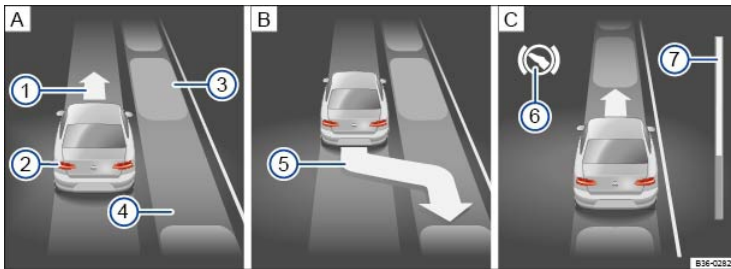
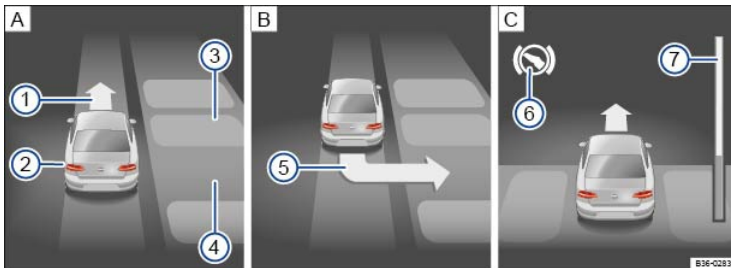

Fig. 145 In the instrument cluster display: Parallel parking. Searching for a parking space, positioning the vehicle for parking, maneuvering.
Fig. 146 In the instrument cluster display: Parking perpendicular to the road. Searching for a parking space, positioning the vehicle for parking, maneuvering.
Key to ⇒ Fig. 145 and ⇒ Fig. 146 :
The progress bar ⇒ Fig. 145⑦ or ⇒ Fig. 146⑦ in the instrument cluster display shows the relative remaining distance using symbols. The higher the progress bar the longer the remaining distance. When driving forward, the progress level moves up; when driving in reverse, it moves down.